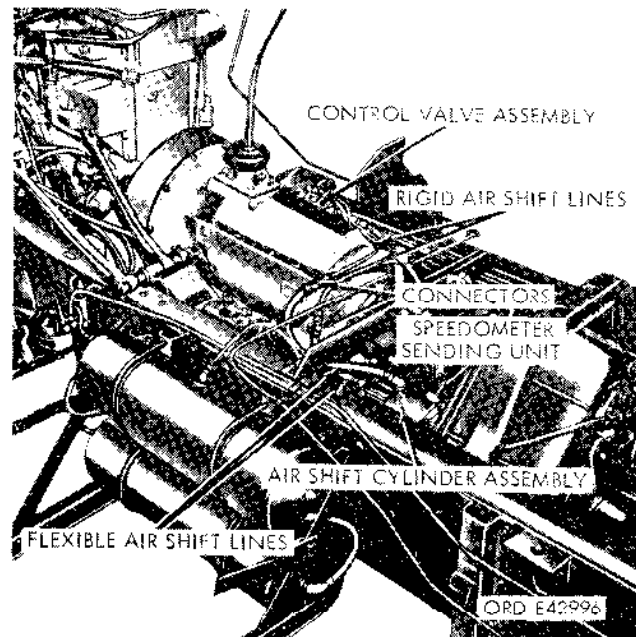

Figure 2-168. Removing air shift lines and connectors.
a. Removal. From underneath the vehicle, unscrew the air shift line connectors (fig. 2-168) at the junction of the rigid and flexible lines.
*c. Installation.* Connect the flexible lines at the left front of the transfer to the rigid lines at the top rear of the transmission. Tighten the connectors (fig. 2-168).